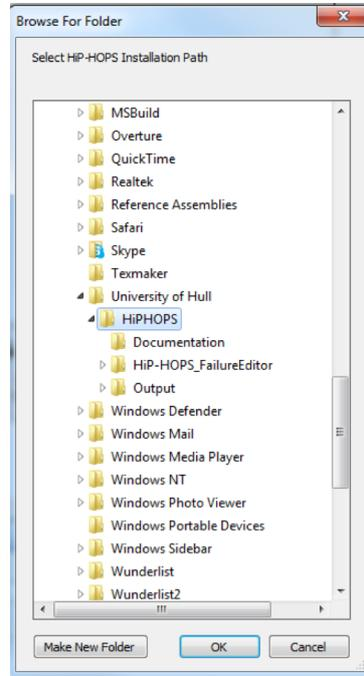

Figure 21: Providing the Fault Analysis tool with location of HiP-HOPS program.
5. Finally the model may be analysed and optimised. Click the corresponding button. The tool will ask for the location of the HiP-HOPS tool as in Figure 21.